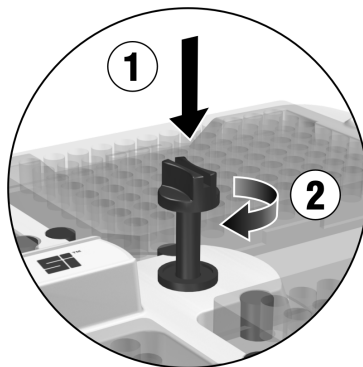

Figure 7
4.0 – Push down and turn the Quarter Turn Fastener to lock the Accessory Tray in place. (See Figures 7 and 8).